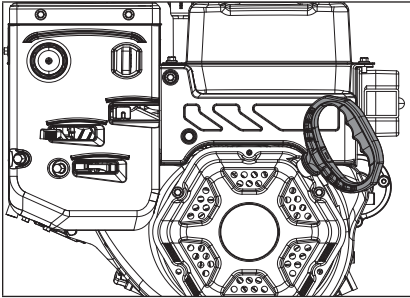

Figure 13
4. Stand back and to the right of the unit, pull the starter grip lightly until you feel resistance then pull briskly. Return the starter grip gently (Fig. 13).